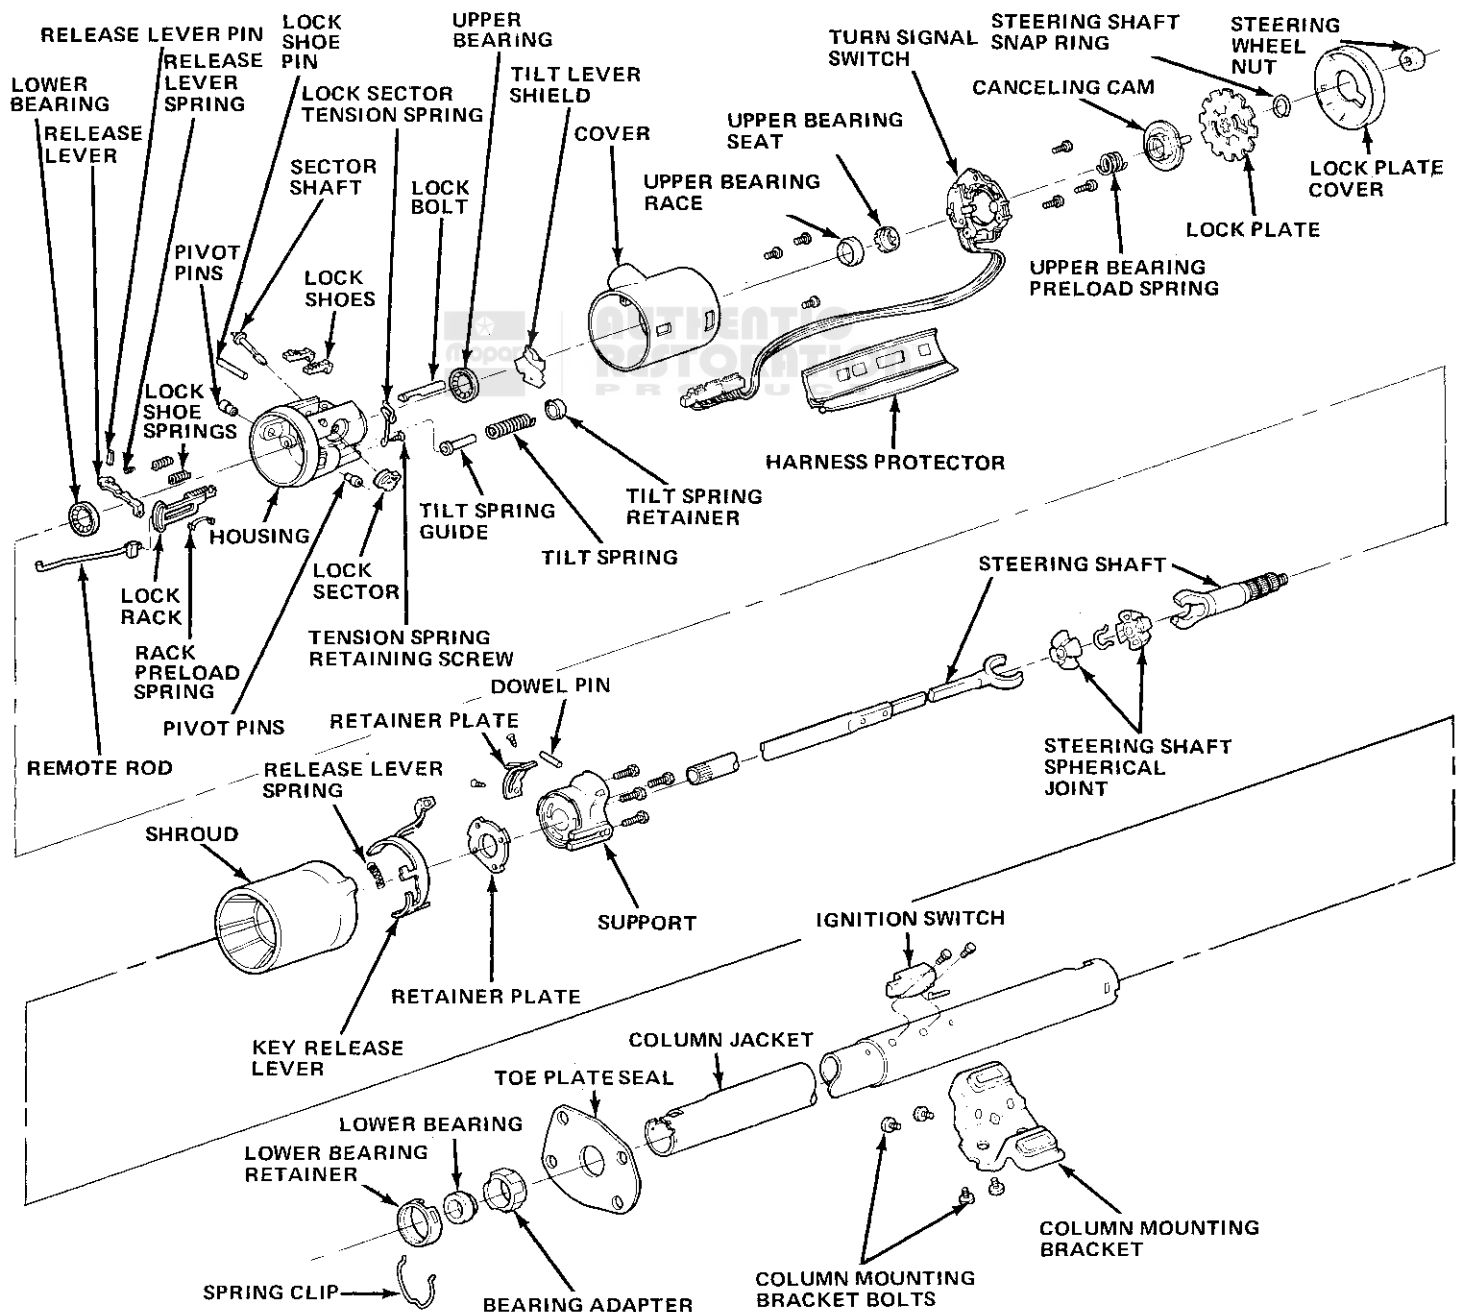

Fig. 2J-47 Tilt Steering Column—CJ Models
**NOTE:** Although the tilt column can be disassembled down to the housing with the column mounted in the vehicle, the column must be removed if disassembly is to be more extensive. If the column is removed, use Support Fixture J-23074 to mount the column in a vise for service operations (fig. 2J-5).